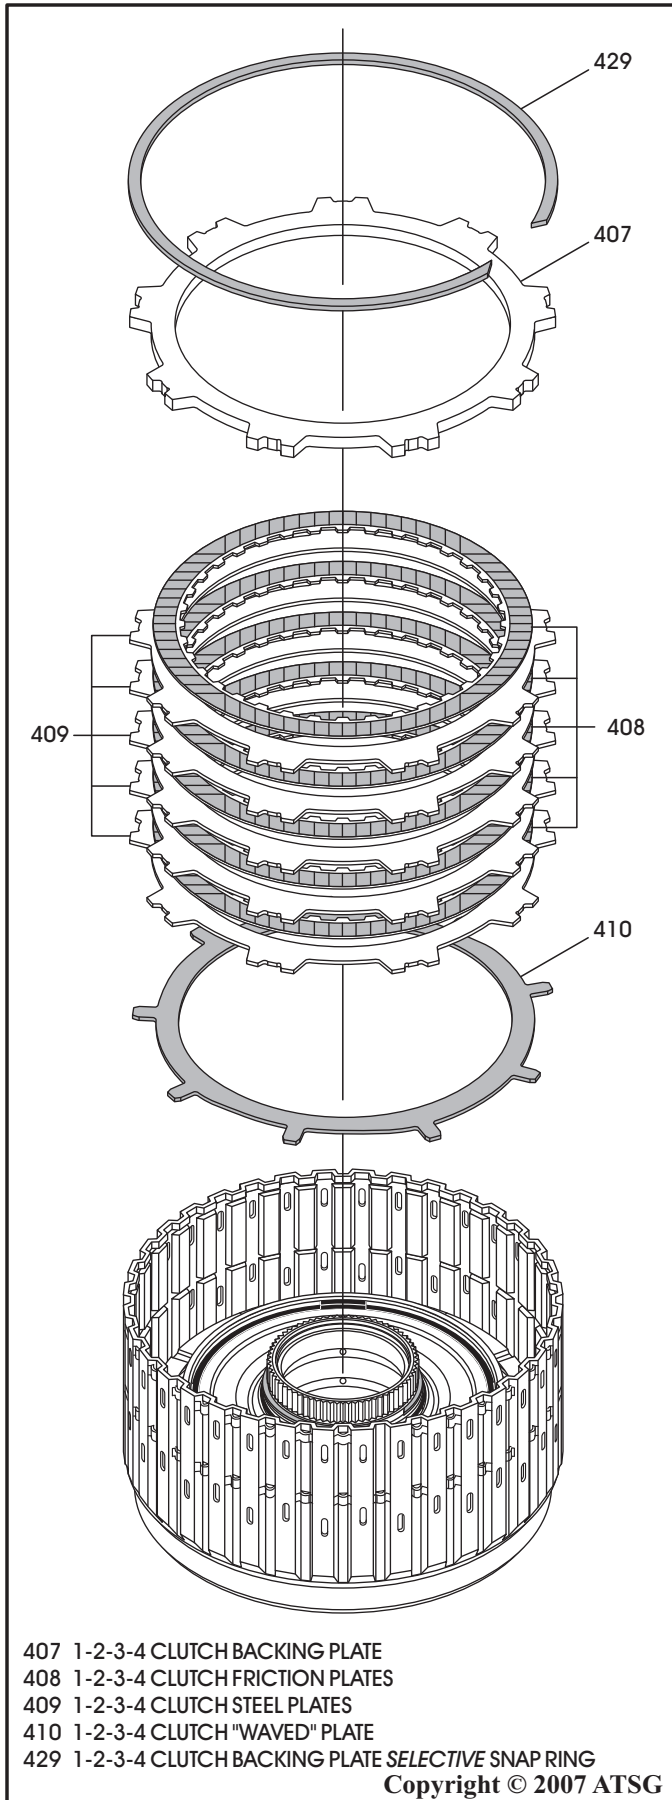

Figure 98
23. Install the 1-2-3-4 clutch "wave" plate into the housing, as shown in Figure 98.
24. Install the 1-2-3-4 clutch plates beginning with a steel plate and alternating with a friction until you have installed five of each, as shown in Figure 98.
25. Install the 1-2-3-4 clutch backing plate, as shown in Figure 98.
26. Install the 1-2-3-4 clutch backing plate snap ring, as shown in Figure 98.